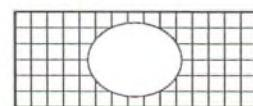

Fig. 8.10 Symbol for a vanity cabinet, basin, and countertop.
1. It is only necessary to draw the simple symbols shown in Fig. 8.10 to indicate any of the preceding material selections.
6. The basin can be placed at any location along the length of the countertop. Fig. 8.10 depicts a vanity, countertop, and basin.